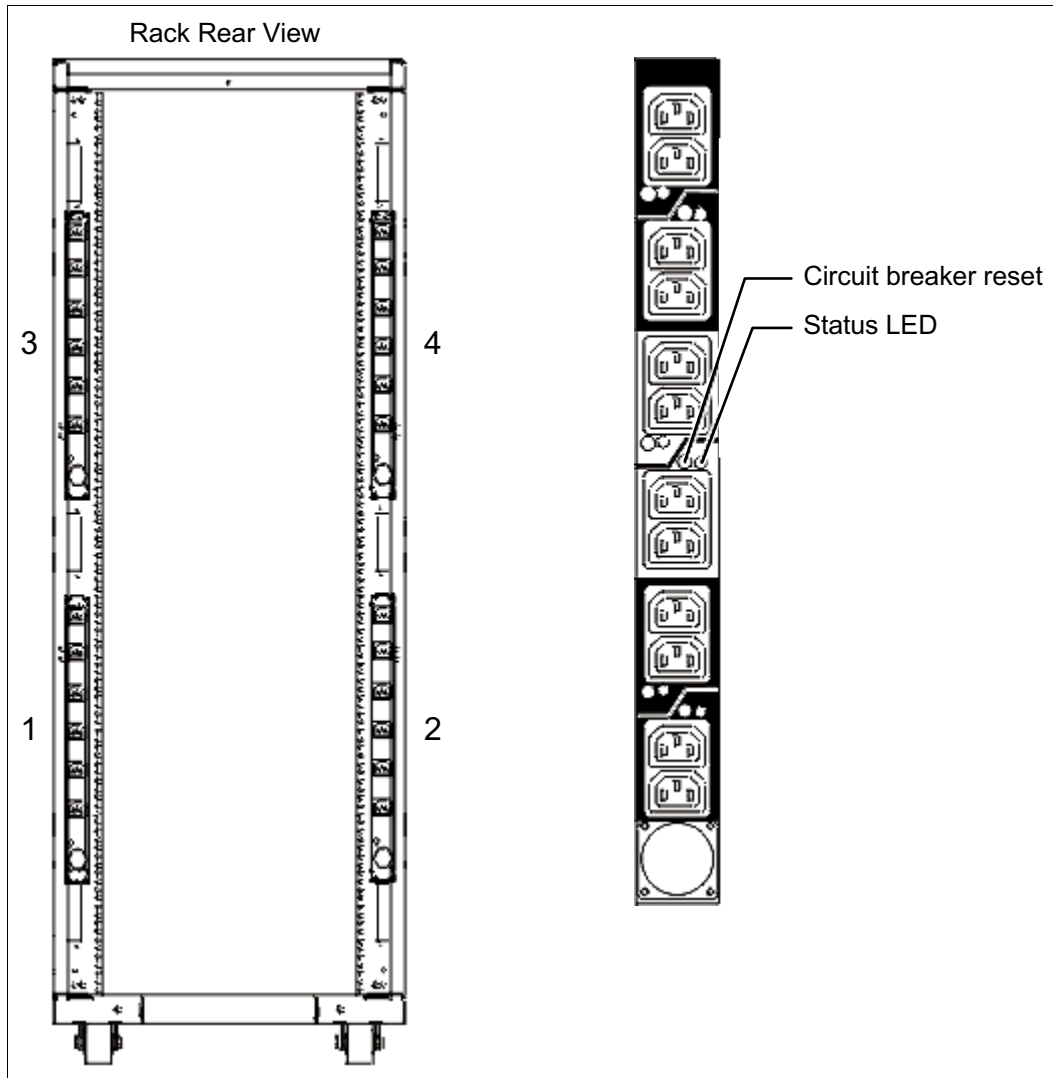

Figure 1-8 PDU placement and PDU view
- ▶ Up to four power distribution units (PDUs) can be mounted in the PDU bays (see Figure 1-8 on page 28), but others can fit inside the rack. For more information, see 1.10.7, "The AC power distribution unit and rack content" on page 28.
Four PDUs can be mounted vertically in the back of the T00 and T42 racks. Figure 1-8 shows the placement of the four vertically mounted PDUs. In the rear of the rack, two additional PDUs can be installed horizontally in the T00 rack and three in the T42 rack. The four vertical mounting locations are filled first in the T00 and T42 racks. Mounting PDUs horizontally consumes 1U per PDU and reduces the space available for other racked components. When mounting PDUs horizontally, the best approach is to use fillers in the EIA units that are occupied by these PDUs to facilitate proper air-flow and ventilation in the rack.